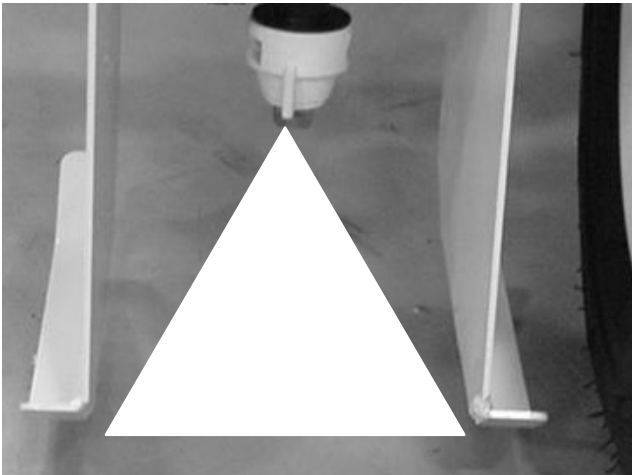

Figure 23
5. Raise or lower the nozzle tube until the paint sprays slightly below the shields (Fig. 23).